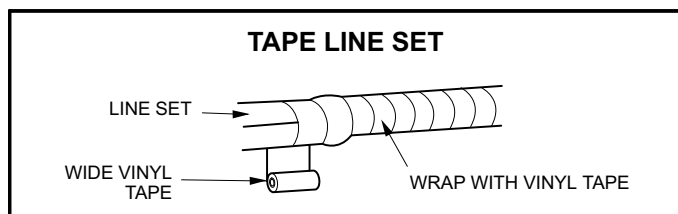

FIGURE 43
3. Start from the bottom at the outdoor unit and use tape to bundle the insulated line set together with tape (figure 43).